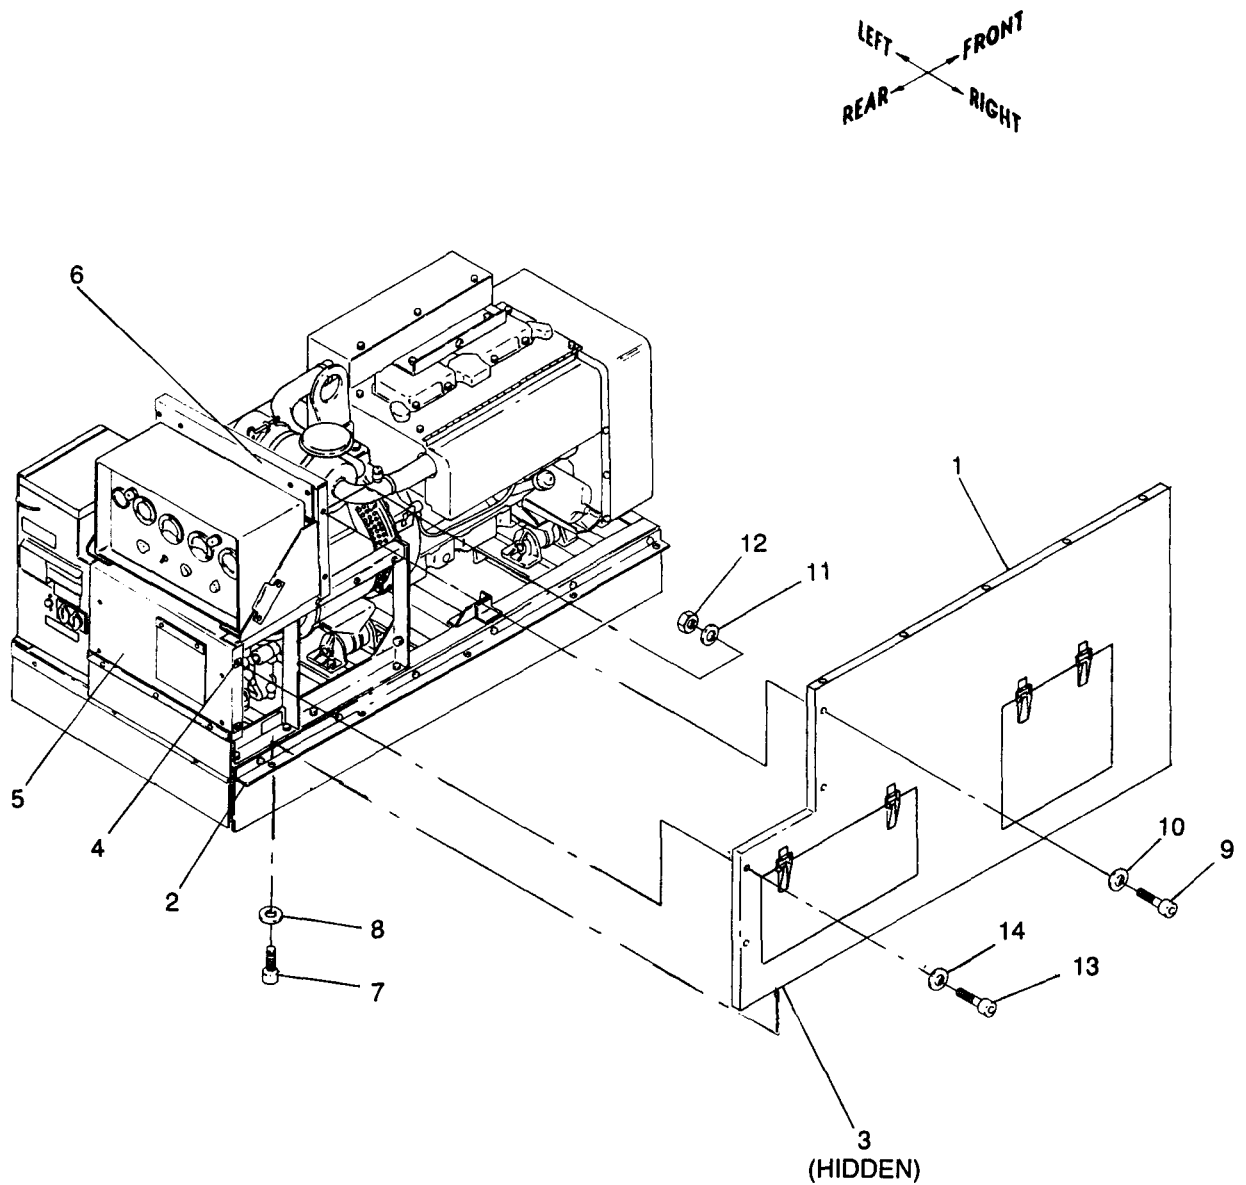

Figure 10-5. Installation of Right Panel Assembly
9.	Right Panel (Long Side) (1, fig. 10-5)
(1) Refer to figure 10-5 and clear out acoustic fill from holes in right panel assembly (1) using 3/8 inch diameter pin.
(2) Locate right panel assembly (1) on right support assembly (2) by aligning captive nuts (3) in right panel assembly (1) with holes in right support assembly (2). Align captive nuts (4) in rear panel assembly (5) with holes in right panel assembly (1). Align holes in right panel assembly (1) with holes in rear closure assembly (6).
(3) Install right panel assembly (1) to right support assembly (2), with five screws (7) and five washers (8). Install right panel assembly (1) to rear closure assembly (6) with two screws (9), four washers (10 and 11) and two locknuts (12). Install right panel assembly (1) to rear panel assembly (5) with two screws (13) and two washers (14) (as listed in table 10-1, item 9).
(4) Torque screws (7) and screws (13) to 18 $\pm$ 2 in.-lbs dry.
(5) Torque screws (9) to 16 $\pm$ 2 ft-lbs dry.